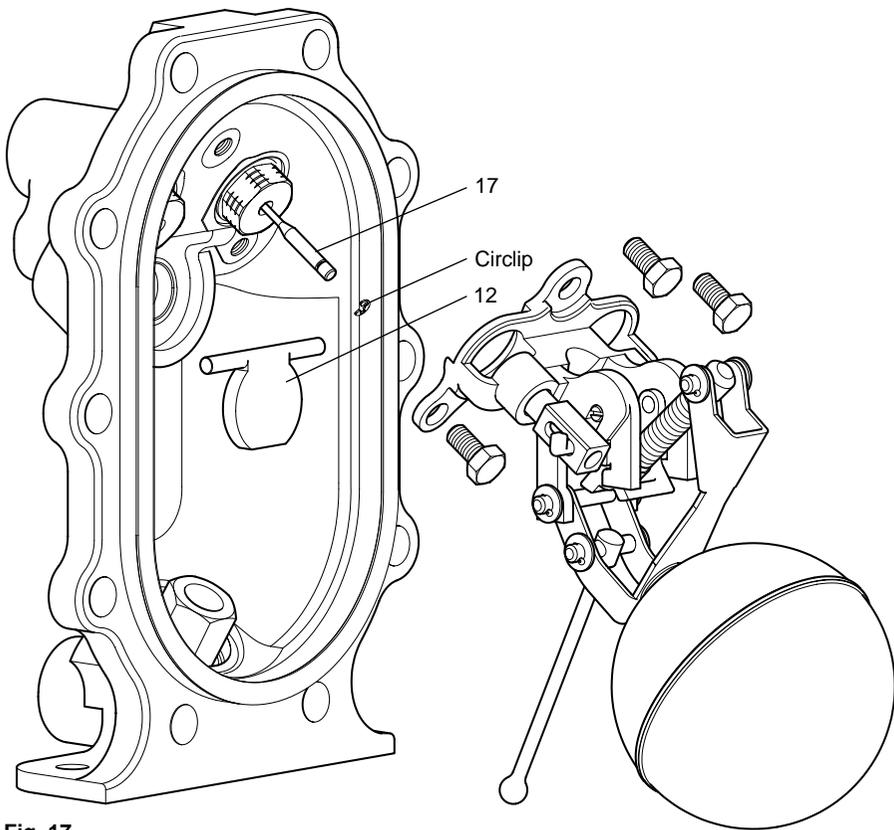

Fig. 17
3. Carefully remove the circlip from the end of the steam inlet valve (item 17).
5. Lift away the pump bracket assembly (See Fig. 17). This will allow access to the inlet swing check valve (item 12).
13. Carefully reconnect the motive steam supply and the exhaust lines to the connections marked (S) and (E), and the condensate inlet and outlet to the connections marked (IN) and (OUT). The APT10-2 is now ready to recommission.